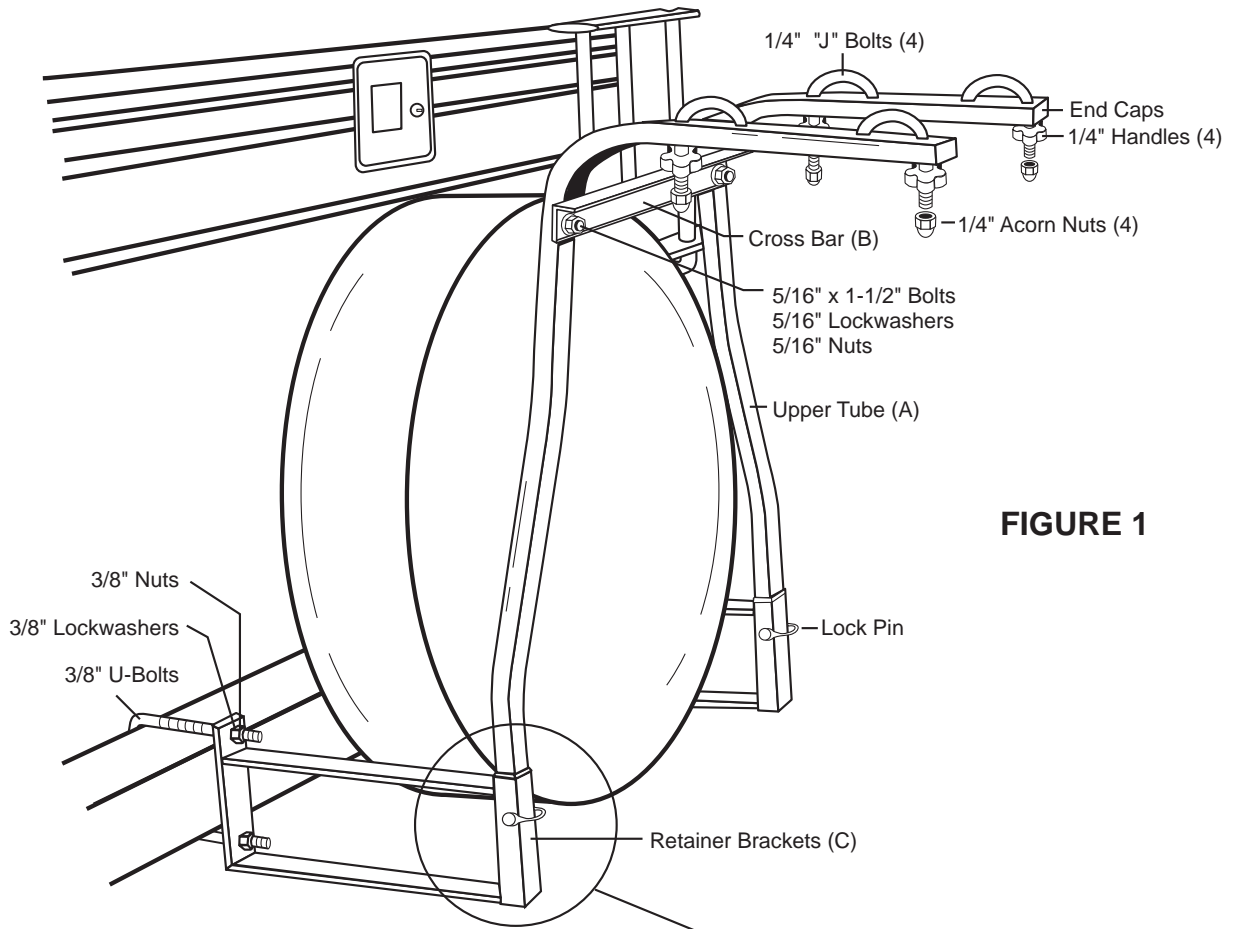
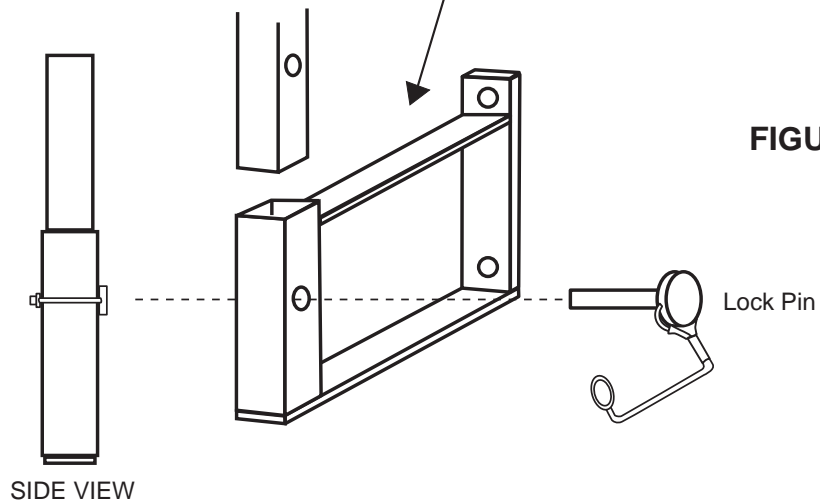

FIGURE 1
FIGURE 2
1. Attach cross bar (B) to upper tube (A) as shown in Fig. 1, using 5/16" x 1-1/2" bolts, 5/16" lock washers, and 5/16" nuts. Insert plastic end caps into upright tubes.
2. Assemble lower tube retainer brackets (C) to rear bumper using 3/8" U-bolts, lock washers and nuts. Do not tighten the nuts. (See Fig.1) Insert upper tubes into pockets in retainer brackets, and secure with lock pin on either right or left side, as shown in Fig. 2. Tighten the 3/8" nuts.
3. Cut protective tape and place on arms under "J" bolts to protect bikes. Install the bikes on the carrier and hold down bikes using the (4) "J" bolts and (4) knobs, and tighten. **Be sure the "J" bolts are mounted facing each other, as shown in Fig. 1.** With smaller diameter bike frames, the "J" bolts may be turned to either side of the upper tubes (A) for a better fit. continue tightening handles after you encounter initial resistance to be sure the handles are tight against the upper tubes (A). This is the primary means of securing the "J" bolt. **CAUTION:** Over tightening can cause the "J" bolts to deform. If this occurs, stop turning the handle.
5. Bikes must be secured to the carrier crossbar with the (2) nylon straps provided as shown on the attached page to avoid any possible separation. It is the owner's responsibility to check the tightness of the strap periodically for continued safety. It is also recommended to tie the bike wheels together with material not supplied with this kit to prevent the wheels from turning. **Do not create any downward vertical force on any part of the carrier when so securing tying the bikes.** Carefully read and follow the Tips and Notes on Page 2.